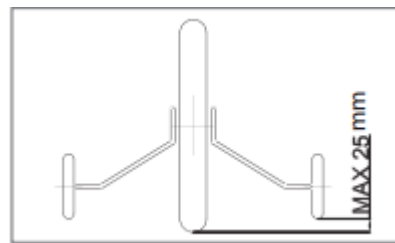

Fig. 2 – Minimum distance of the wheels from the ground.
1. Unscrew the nuts (4) from the rear wheel axle.
2. Assemble the mug guard (3, optional). Do not disassemble the stabilizers (1).
3. Assemble the following components from first to last: wheel arms (2) mud guard (3).
4. Set the training wheels so that there would be a 25 mm gap between the wheels and the ground (Fig. 2). Tightening force = 17 N m.